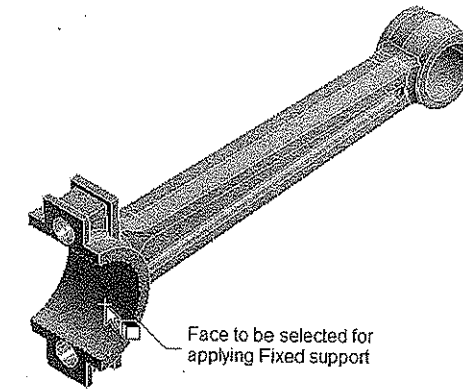

Figure 10-30 Cylindrical face selected for applying Fixed support
4. Now, choose the **Face** tool from the **Select** toolbar and then select the cylindrical face of the model, as shown in Figure 10-30.